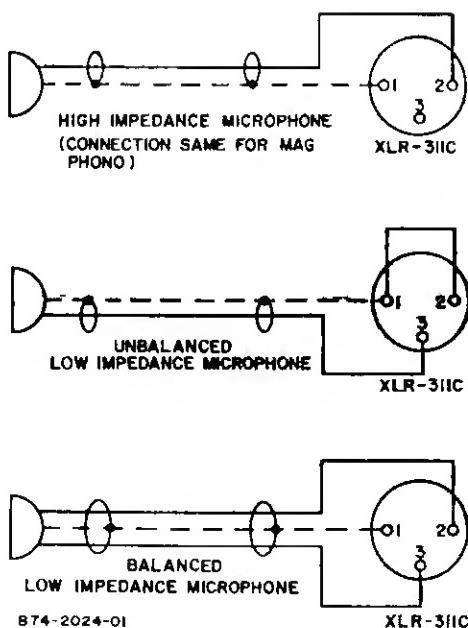

Figure 2—Wiring Microphone Cable Connector
a single-conductor shielded cable under 35 feet long and terminated in a Cannon XLR-311C connector (Bogen Part No. 85-0124-01) as shown in figure 2.
**UNBALANCED LOW IMPEDANCE MICROPHONES:** Jumpers with push-on connector lugs are mounted on the printed circuit board assembly for use in converting the MIC input channel circuits. See note 5 on the schematic diagram, figure 3. To convert MIC 1 for unbalanced low impedance use, connect jumper between pins 14 and 15; to convert MIC 2, connect jumper between 17 and 18. As shown in figure 2, make and connect a jumper between terminals 1 and 2 of the microphone plug, with the shield connected to pin 1. Connect the conductor lead of the microphone to pin 3 of the plug.
**BALANCED LOW IMPEDANCE MICROPHONES:** Low impedance transformer accessories are required to permit the amplifier to accept inputs from microphones rated at 50, 200, or 500 ohms. Use a two-conductor shielded cable for the microphone lead, terminated in a Cannon XLR-311C connector, as shown in figure 2. Before connecting microphone, insert appropriate plug-in transformers and modify connections to transformer sockets as described in the Accessories Section. Plug-in transformers are furnished with holdown springs which should be used to keep the transformer in place. Locate 2 square holes on either side of transformer receptacle, place spring directly over transformer and lock ends into these holes.
**MAG PHONO:** The output of a phonograph employing a magnetic cartridge may be connected to the MIC 2 input receptacle on the rear panel. Use a single-conductor shielded audio cable terminated in a Cannon XLR-311C connector as shown in figure 2 (connections same as high impedance mic). A magnetic tape head may also be connected in this manner.